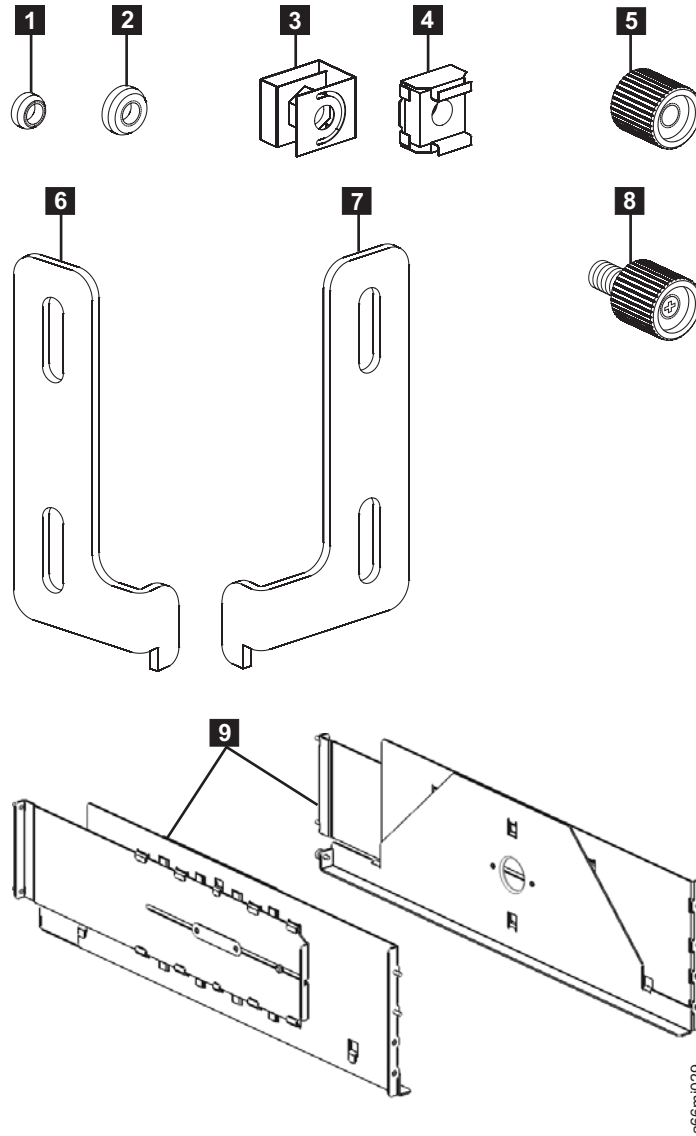

Figure 3-3. Rack Mount Kit hardware (parts not sized proportionately in figure)
| 16 | Centering nuts: <ul style="list-style-type: none"> • 8 for racks with round holes (1 in Figure 3-3) • 8 for racks with square holes (2 in Figure 3-3) |
| 8 | Black thumb nuts (5 in Figure 3-3) |
| 2 | Rack ears (6 and 7 in Figure 3-3): |
| 4 | Rack ear screws (8 in Figure 3-3): |
| 2 | Rails (9 in Figure 3-3) |
| 8 | Clip/Cage nuts: <ul style="list-style-type: none"> • 4 clip nuts for racks with round holes (3 in Figure 3-3 on page 3-5) • 4 cage nuts for racks with square holes (4 in Figure 3-3 on page 3-5) |
| 2 | Rack ears (6 and 7 in Figure 3-3 on page 3-5): |
| 4 | Rack ear screws (8 in Figure 3-3 on page 3-5): |
The rails (**9** in Figure 3-3 on page 3-5) in the Rack Mount Kit require five EIAs of vertical rack space and are installed in the lowest five EIAs of the selected rack location for the library.
3. For a 14U library, install clip nuts (**3** in Figure 3-3 on page 3-5) for vertical rack rails with round holes or cage nuts (**4** in Figure 3-3 on page 3-5) for vertical rack rails with square holes in the front rack rails in the following positions:
1. Collapse the rail (**9** in Figure 3-3 on page 3-5).
- Use the round hole centering nuts (**1** in Figure 3-3 on page 3-5) for vertical rack rails with round holes.
- Use the square hole centering nuts (**2** in Figure 3-3 on page 3-5) for vertical rack rails with square holes.
- b. Place a thumb nut (**5** in Figure 3-3 on page 3-5) on each stud and tighten.